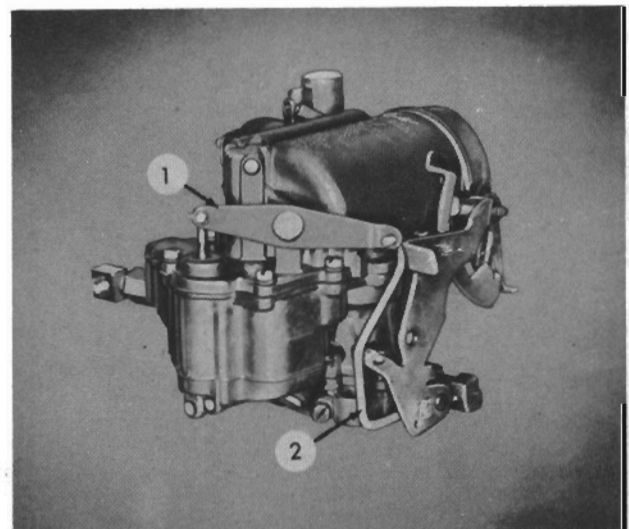

FIG. 53
Disconnect the accelerating pump rod (2, Fig. 53) from the accelerating pump lever (1). Remove the air horn attaching screws and lock washers and lift